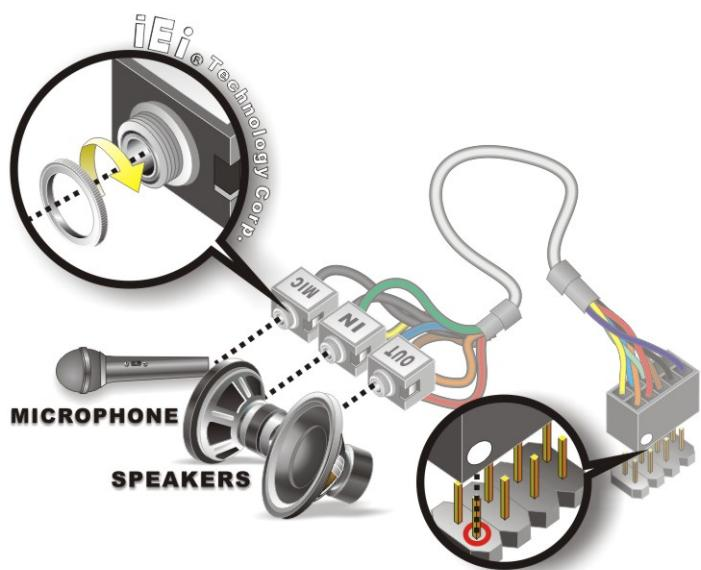

Figure 4-10: Audio Kit Cable Connection
Step 2: Align pin 1. Align pin 1 on the on-board connector with pin 1 on the audio kit connector. Pin 1 on the audio kit connector is indicated with a white dot. See **Figure 4-10**.